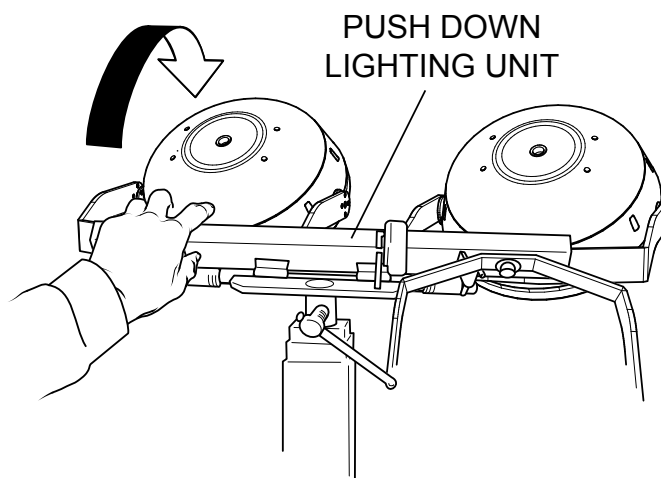

Figure 17. Pushing Down Light Stand
4. Push down the lamp stand (Figure 17). Some force is required when pushing down because of the installed springs.